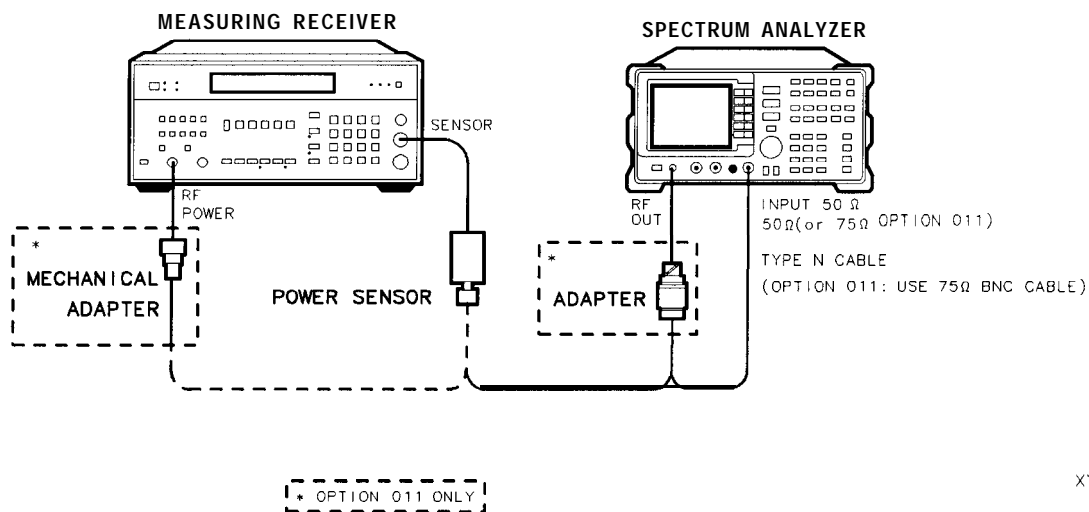

Figure 1-25. Absolute Amplitude, Vernier, and Power Sweep Accuracy Test Setup
1. Connect the Type N cable between the RF OUT 50 Ω and INPUT 50 Ω connectors on the spectrum analyzer. See Figure 1-25.
6. Disconnect the Type N cable from the RF OUT 50 Ω and connect the power sensor to the RF OUT 50 Ω as shown in Figure 1-25.